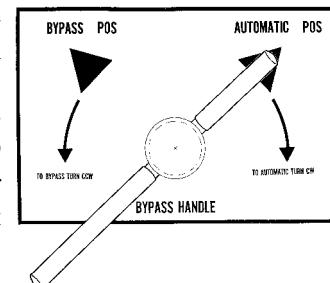

Figure 3-8 Turn Bypass Handle to AUTOMATIC.
7. Turn Bypass Handle clockwise as shown in Figure 3-8 to *AUTOMATIC POS*. The Bypass Switch *CLOSED ON* *NORMAL* or *EMERGENCY* light should go off.